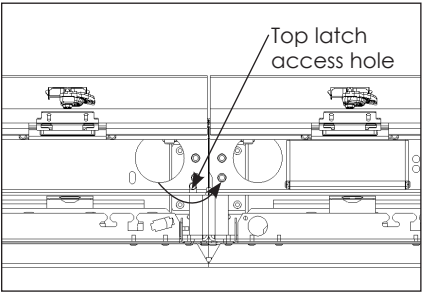
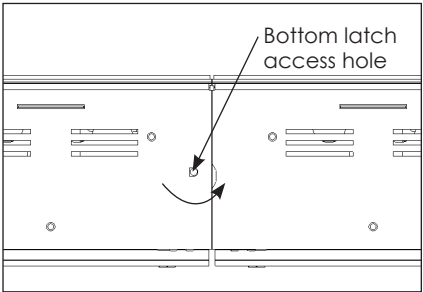

Figure 8: Access Top Latch
Figure 9: Access Bottom Latch
7. Engage both the top and bottom latches located in the far right bay of each section. Refer to **Figure 8** and **Figure 9** for latch access locations. Rotate the latches toward the front of the cabinet (clockwise for the top latch and counterclockwise for the bottom latch) as shown in **Figure 8** and **Figure 9**.